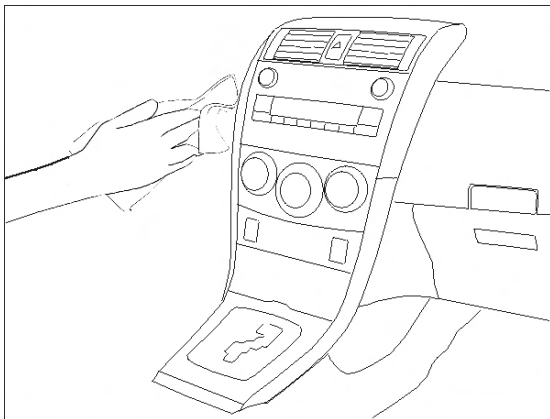

Fig. 2-1
- (ii) Clean surface thoroughly using VDC approved cleaner and wipe dry. Do not allow cleaner to air dry. (Fig. 2-1)